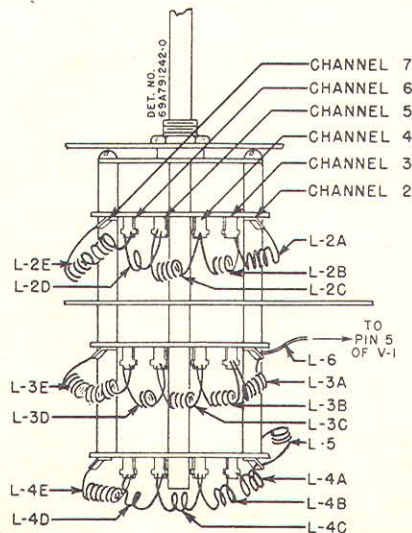

FIGURE 7. ANTENNA, RF & OSCILLATOR COILS
5. Set the generator to the oscillator frequency of channel 10 (170.35 mc) and adjust the oscillator trimmer (C-11) for zero beat viewed on the oscilloscope. Zero beat is indicated by the sharply defined trace that appears between the two wide traces as the trimmer is tuned through resonance. (See Figure 8 for oscillator frequencies.) Check all high channels (7-13) to determine if zero beat occurs with fine tuner within 22-1/2 degrees of mid-setting. It may be necessary to adjust coil L-5 (high band oscillator coil, Figure 7) to bring channel 13 within this range. Adjustment is made by compressing or spreading the coil with an insulated screwdriver. If L-5 is adjusted, it may be necessary to retune trimmer to channel 10 to bring channels 7 to 10 within the 22-1/2° range.
7. Touching up a particular coil section is accomplished by spreading or compressing the individual coils. (See Figure 7 for location of various coil sections.)
5. Check channels 7 and 13, noting whether the mid-frequencies of these channels produce maximum amplitude on curve. The RF coil for channel 13 (L-6) is a straight piece of wire (Figure 7). As its position with respect to the adjacent lead affects the tuning of the high channels, moving it is a simple means of touching up the curve. A slight readjustment of the RF trimmer may be necessary if L-6 is moved.